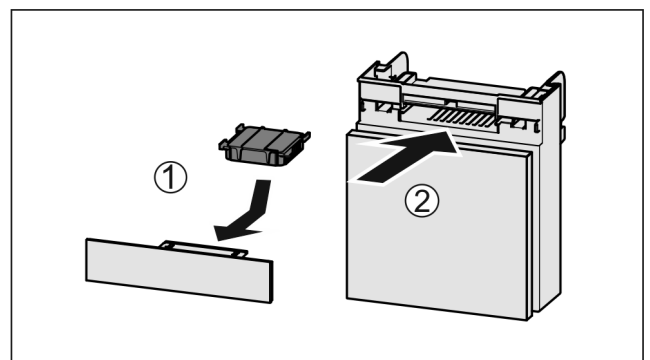

Fig. 63
- ▶ Insert the carbon filter as shown in the diagram Fig. 63 (1).
- ▶ Push the compartment in Fig. 63 (2).